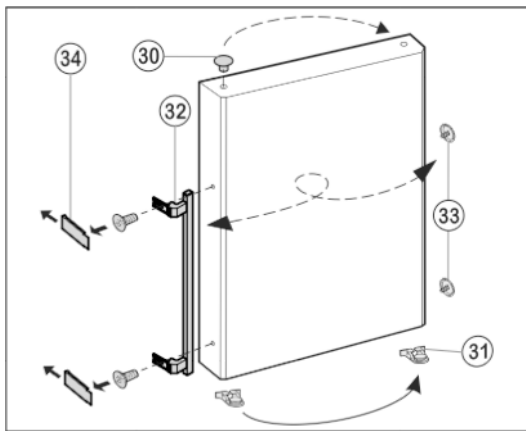

Fig. 10
- ▶ Lift the stopper *Fig. 10 (30)* out of the door bearing bush and transfer it.
- ▶ Detach door handle *Fig. 10 (32)*, stopper *Fig. 10 (33)* and pressure plates *Fig. 10 (34)* and transfer to the opposite side.